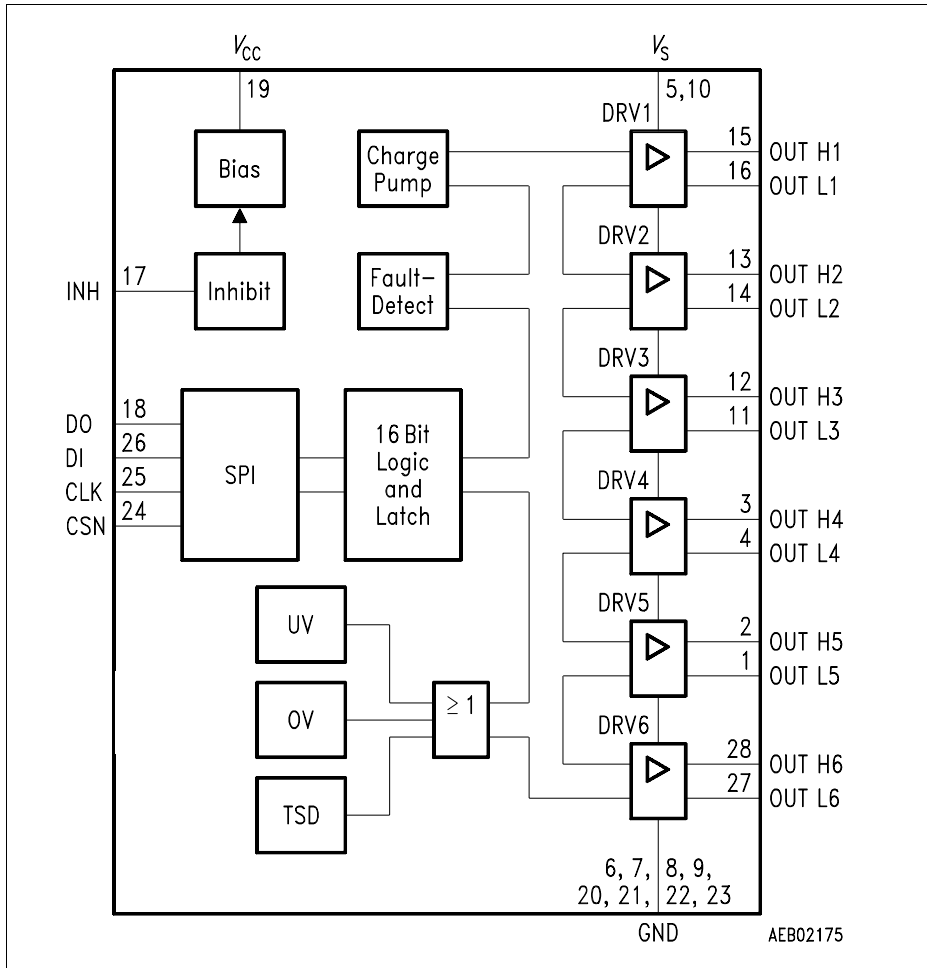

Figure 2
**Figure 2** shows a block schematic diagram of the module.